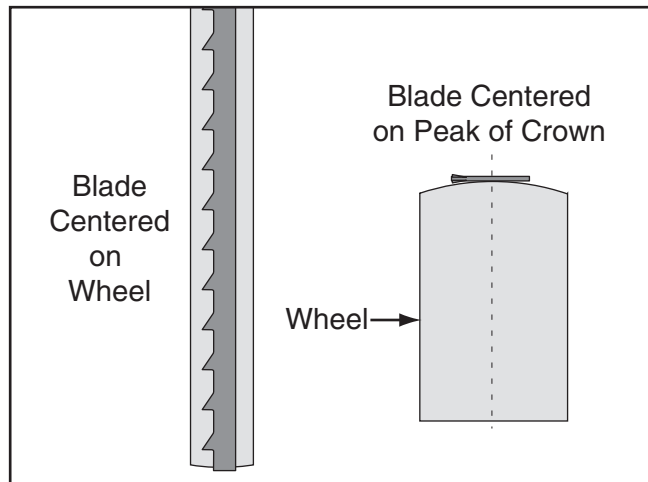

Figure 15. Blade center tracking profiles.
6. Rotate the upper wheel by hand several times (at least three) and watch how the blade rides on the wheel crown. See **Figure 15** for an illustration of this concept.